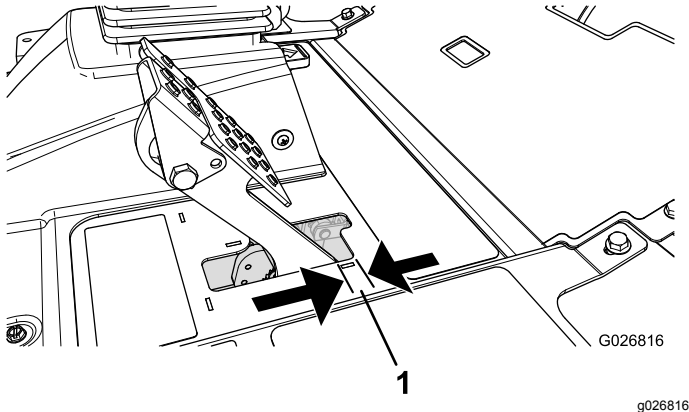

Figure 72
Adjust the brakes when there is more than 2.5 cm (1 inch) of free travel (Figure 72) of the brake pedal, or when more holding force is required. Free travel is the distance the brake pedal moves before you feel braking resistance.
2. Tighten the rear nut to move the cable backward until brake pedals have 0.63 to 1.27 cm (1/4 to 1/2 inch) of free travel (Figure 72), before wheel lock up is achieved.